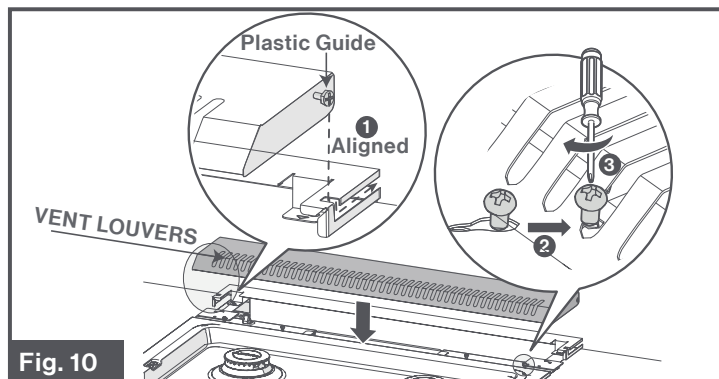

Fig. 10
2. Align the 2 plastic guides located on the each side of the vent cover and insert them into the groove of the rear decorative panel. (Fig. 10)
3. Place the vent panel onto the rear decorative panel with the VENT LOUVERS towards the front. Slide the vent panel along the groove towards the wall until it is directly behind the cooktop. (Fig. 10)
4. The mounting slots will slide under the 4 screw heads when the vent panel is correctly positioned. Then tighten the four screws to secure the vent panel to the cooktop. (Fig. 10)